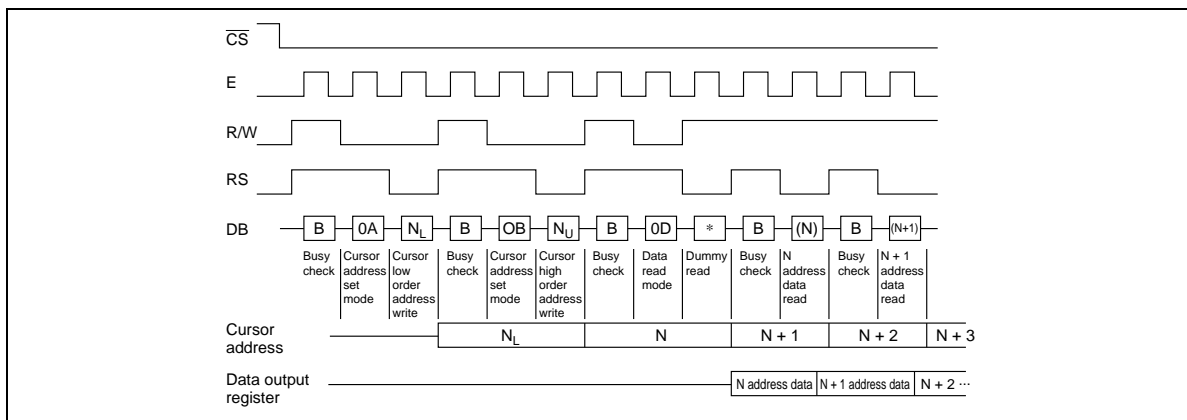

Figure 1 Read Procedure
9. Read Display Data: Data can be read from the RAM with RS = 0 after writing code "\$0D" into the instruction register. Figure 1 shows the read procedure.